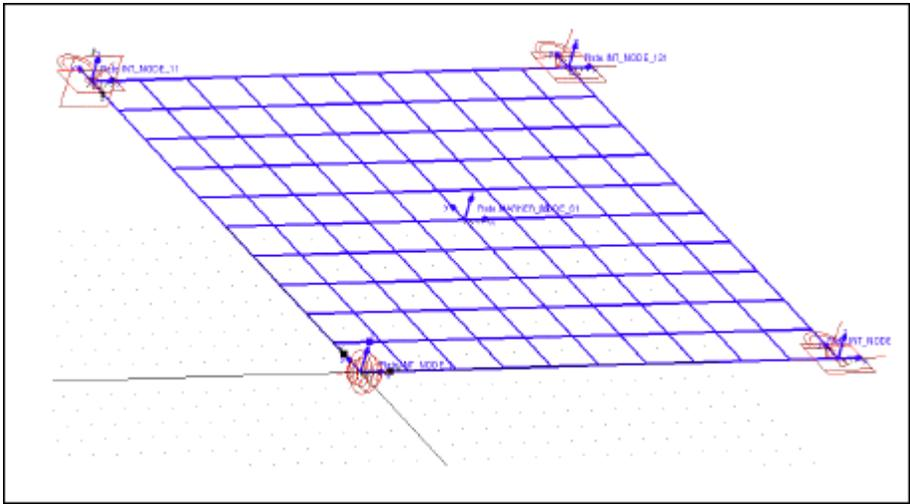

Figure 1 Steel Plate
In this tutorial, you'll explore how a steel plate, shown in Figure 1, responds to the distributed loads listed below. The steel plate is 1 meter square and 10 mm thick. It is supported vertically at all four corners and restrained against rotation in its plane.
Adams View starts and the steel plate appears, as shown in Figure 1.
4. Compare the maximum deflection that Adams Flex returned, with the maximum deflection from MSC.Nastran, listed in Figure 1. Notice that the Adams Flex deflection is slightly larger in magnitude because it contains a small dynamic component that is not present in the MSC.Nastran solution. You will compute the static solution later in the tutorial (Running a Time-Independent \(Static\) Simulation.)